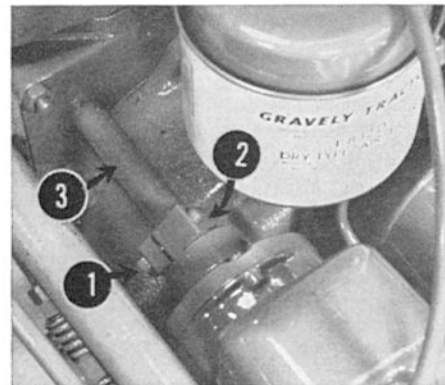

Figure 6
1. Loosen the Magneto Coupling Bolt, 1 in Figure 6, until the Coupling, 2 in Figure 6, moves on the Magneto Shaft Extension, 3 in Figure 6. It may be necessary to tap the Coupling gently.